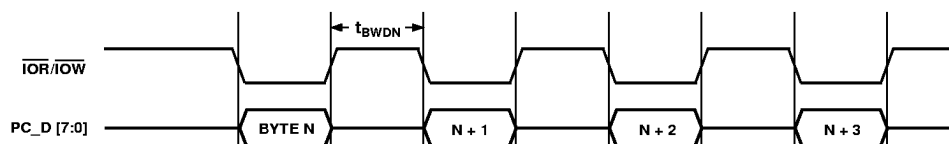

Figure 15. Codec Transfers
After setting format bits, sample data into the AD1821 must be ordered according to Figure 15, Table VI.
- CFMT [1:0] (RW) Capture Format. Use these bits to select the format for capture data according to the following Table VI and Figure 15.